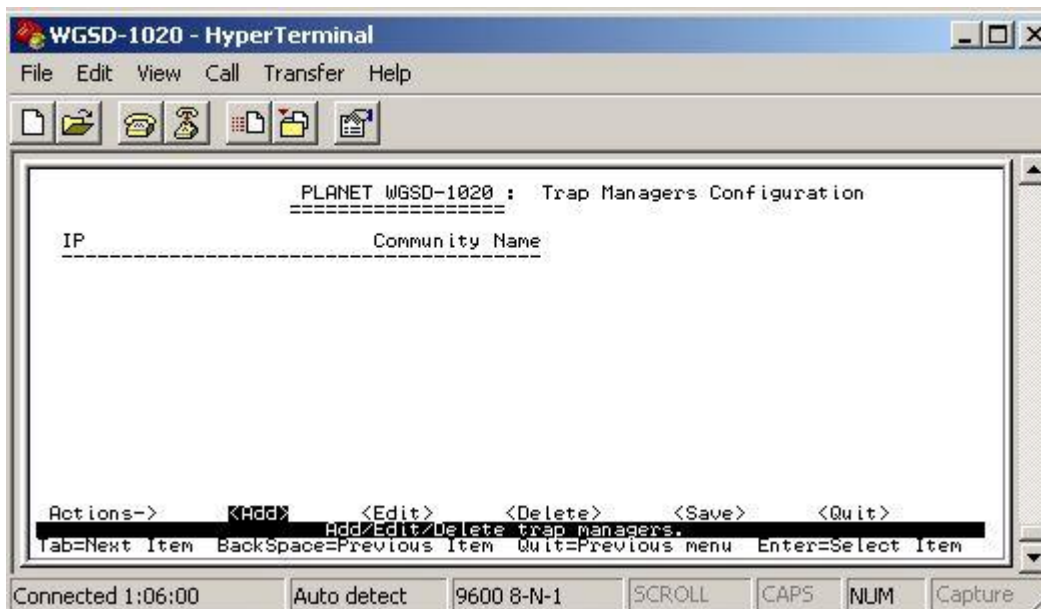

**Figure 4-59** Add SNMP Community name save successfully screen
2. After setup completed, press” **Ctrl-A**” to “**Action menu**” and choose “**save**” to save the current configure. The screen in Figure 4-59 appears.